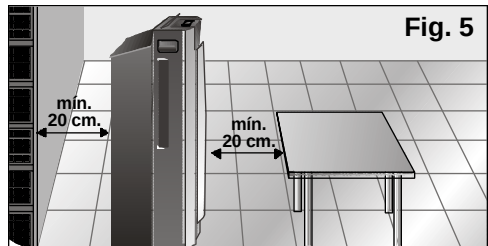

Fig. 5
- ☐ For safety reasons, the appliance must be at least 20 cm away from any nearby surface before it is turned on, **Fig. 5**.